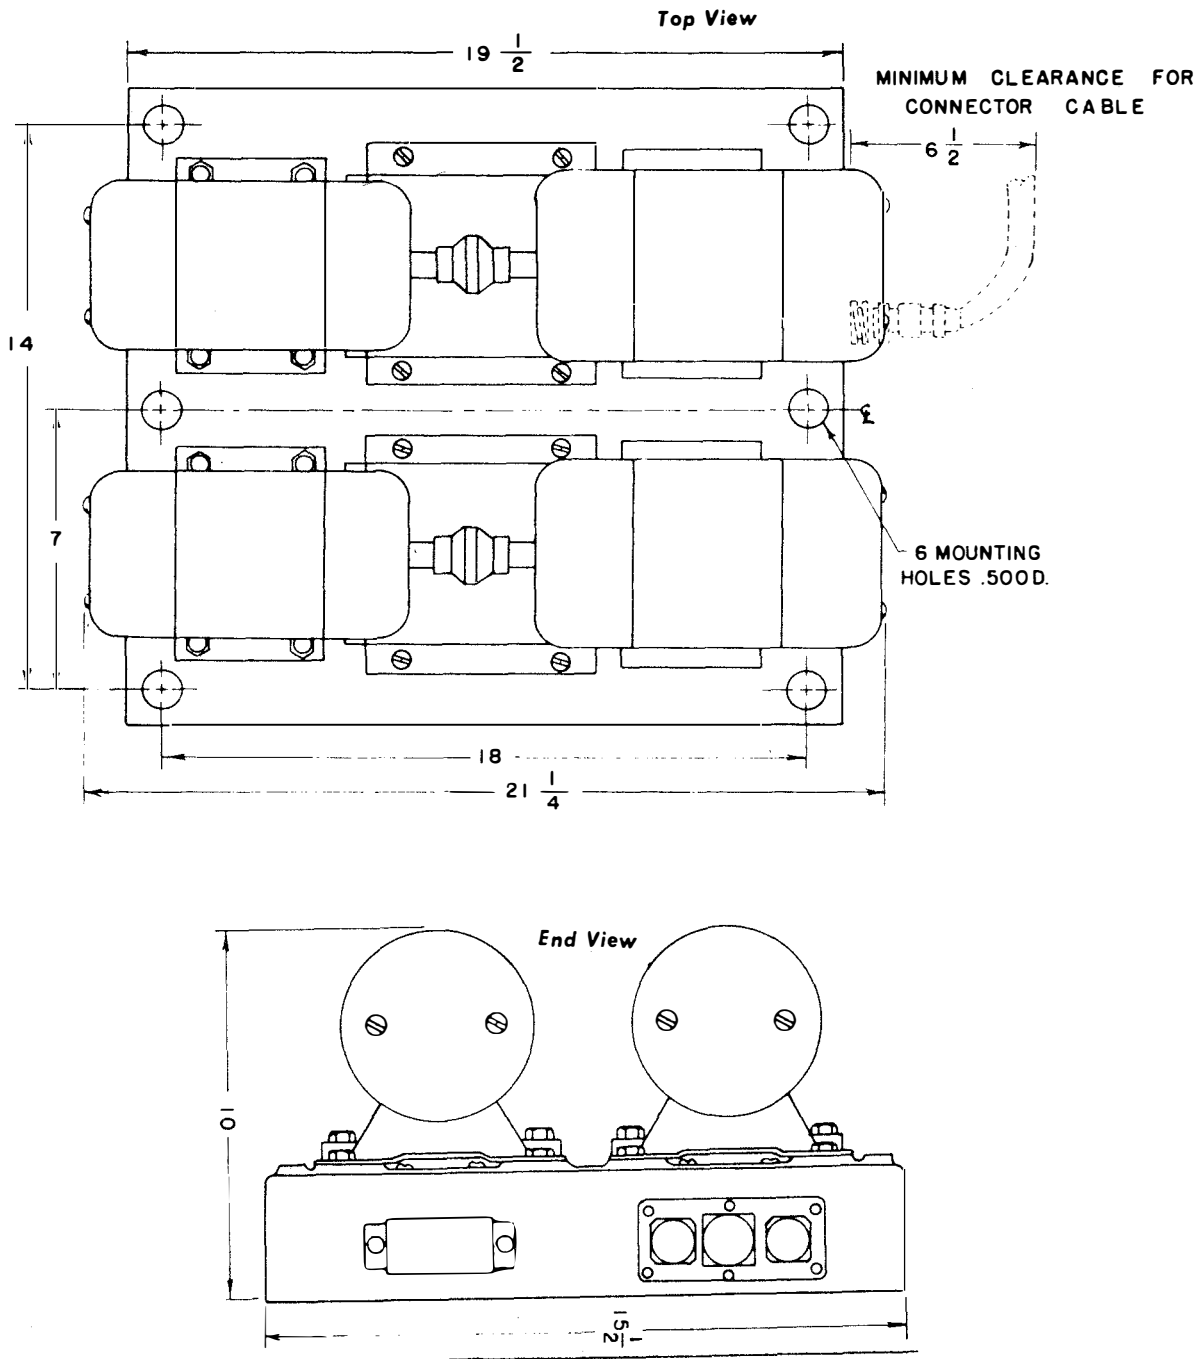

Figure 3-11 Type -211100 and -21827-A Motor Generator Power Units Installation Diagram.
(2) **MOTOR GENERATOR POWER UNITS.**— The Types -211100 and -21827-A Power Units are mounted on identical bases, and therefore require identical mounting facilities. Figure 3-11 shows the mounting dimensions of the unit. Bolts  $\frac{3}{8}$ " in diameter should be used to secure the unit. This unit is rather heavy and considerable care should be exercised in the selecting of